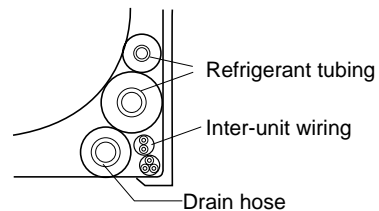

Fig. 3-61
#### (5) Assemble the refrigerant tubing, drain hose, and inter-unit wiring as shown in Fig. 3-61.